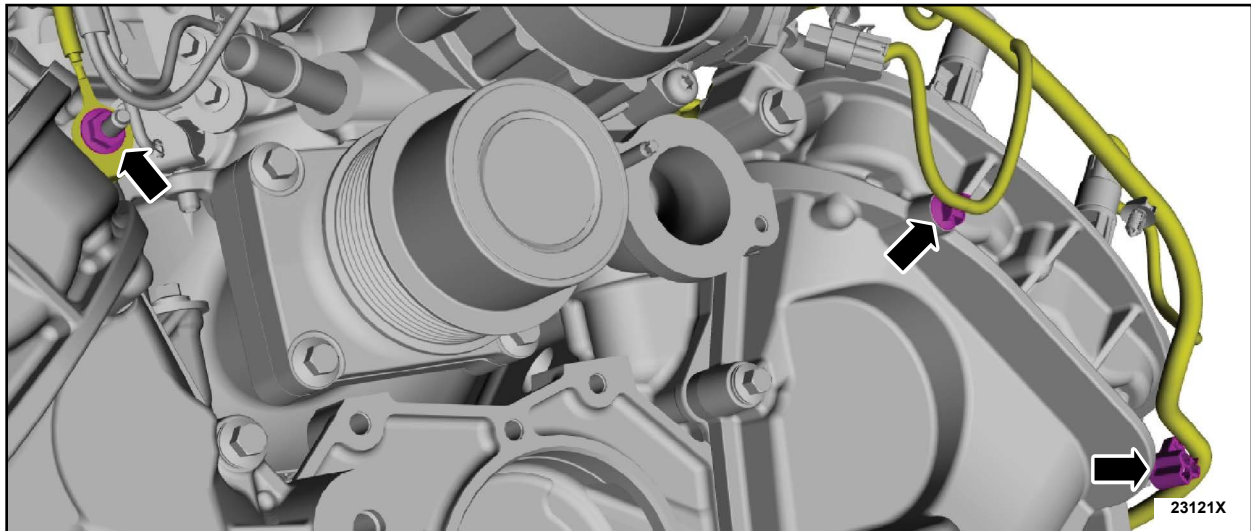

FIGURE 46
29. Attach the wiring harness retainers and install the ground wire and nut. See Figure 46.